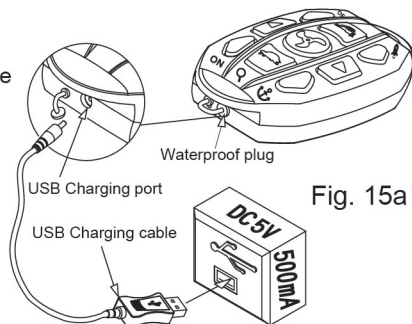

Fig. 15a
2. The hand remote can on average be used continuously for 48 hours. You can have the remote plugged into a USB charging port (if your vessel has one fitted) and still use the remote to command the Cayman motor. (Fig. 15a)